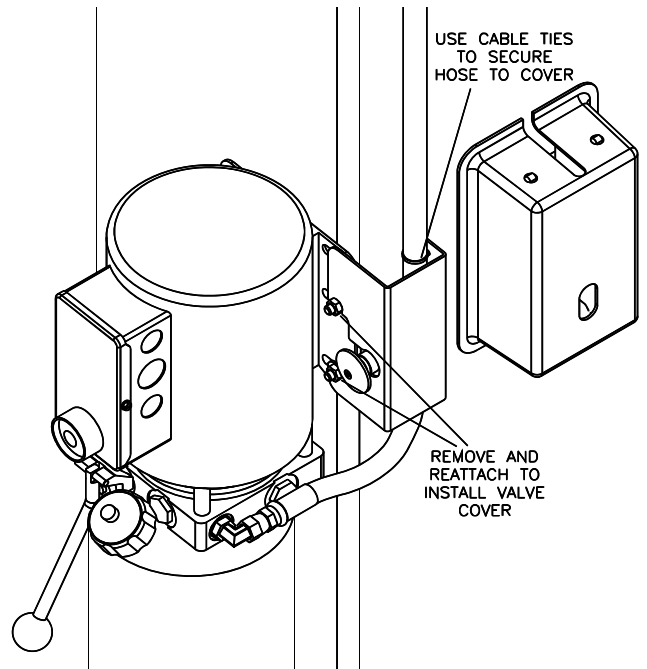

Fig. 17 – Cable Assembly
- 35) Remove the two nuts securing the right side of the power unit, install the valve cover with these nuts, and secure the hose to the cover with wire ties, **Fig. 17**.